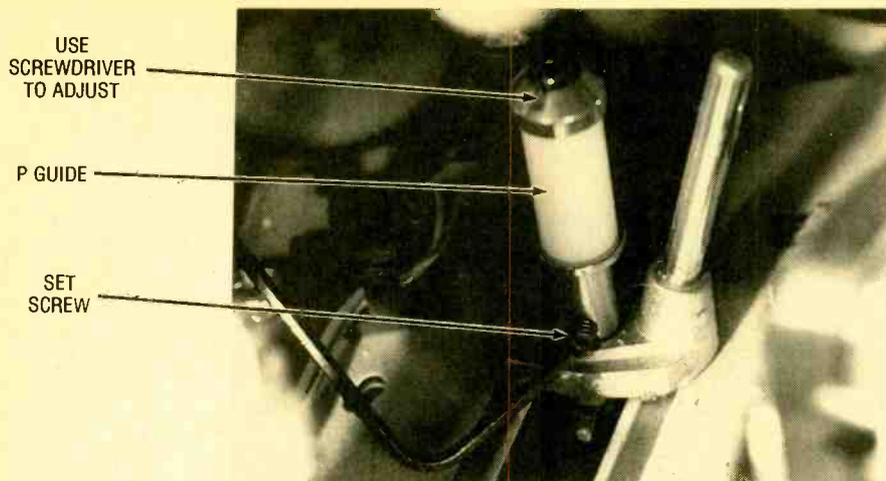

Fig. 4. The P guide adjustment affects picture tracking. Loosen the set screw with an Allen wrench before making the adjustment with a screwdriver.
There are two types of P guides: one that can be adjusted with a screw driver (see Fig. 4) and one that requires an allen-head wrench (shown in Fig. 5). Before adjusting either type, you must first loosen an allen-head set screw. Note the position of the guide you want to adjust, loosen its set screw, then insert a tape and play it. Turn the adjustment on the top of the P guide a little and watch for an improvement in the picture.
Fig. 4. The buzzer can be replaced by a reed relay provided that your receiver's output jack can drive a speaker directly, thereby allowing you to listen to the warning message.
**Modifications.** If your receiver output jack can drive a speaker, you can replace the buzzer with a reed relay as shown in Fig. 4. Instead of a buzzer, the speaker will be activated so that you can listen to the warning message. If the output jack can't drive a speaker, try replacing the buzzer with the circuit in Fig. 5 to add the additional boost needed to drive the speaker.